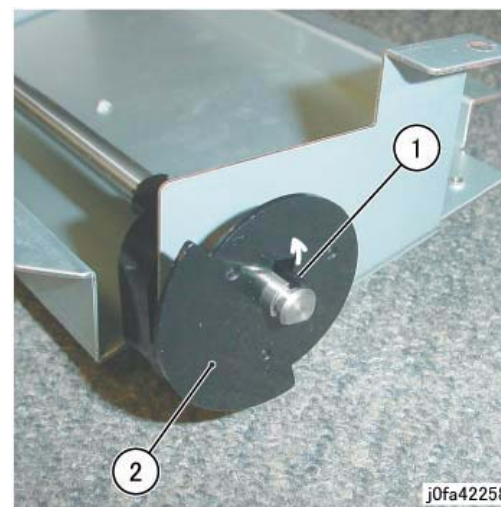

Figure 7 Removing the Actuator
13. Remove the Actuator (Figure 7):